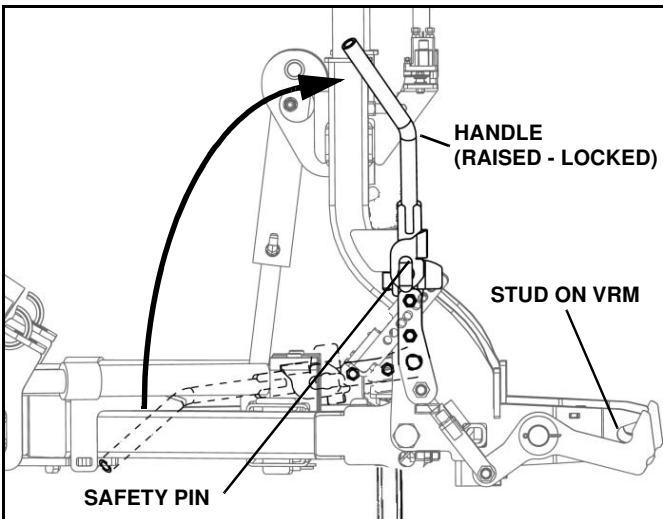

Figure 1-23
3. Pull up engagement handle to engage plow onto stud on VRM, ensuring that the safety pin engages fully. (See Figure 1-23).